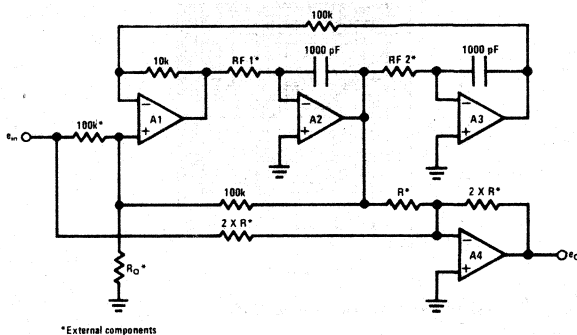

FIGURE 8. Allpass
g) Allpass (Figure 8) transfer function equations are: